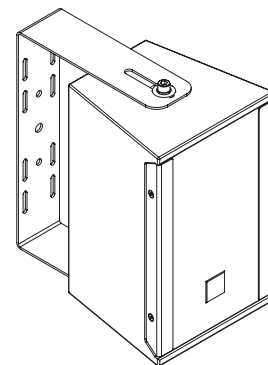

Fig.2
- Step 4:** Rotate the loudspeaker into the desired direction then tighten the side screws permanently. (See figure 2)